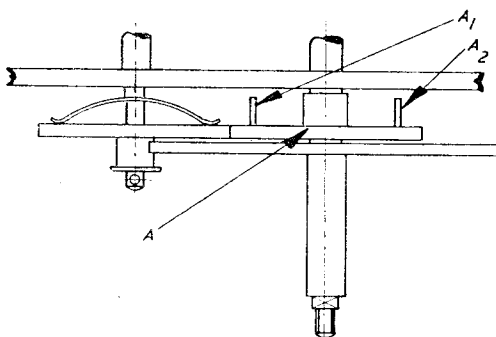

Fig. 2. Driving mechanism of hands
These wheels and spindle carrying (A) may be seen in Fig. 2.